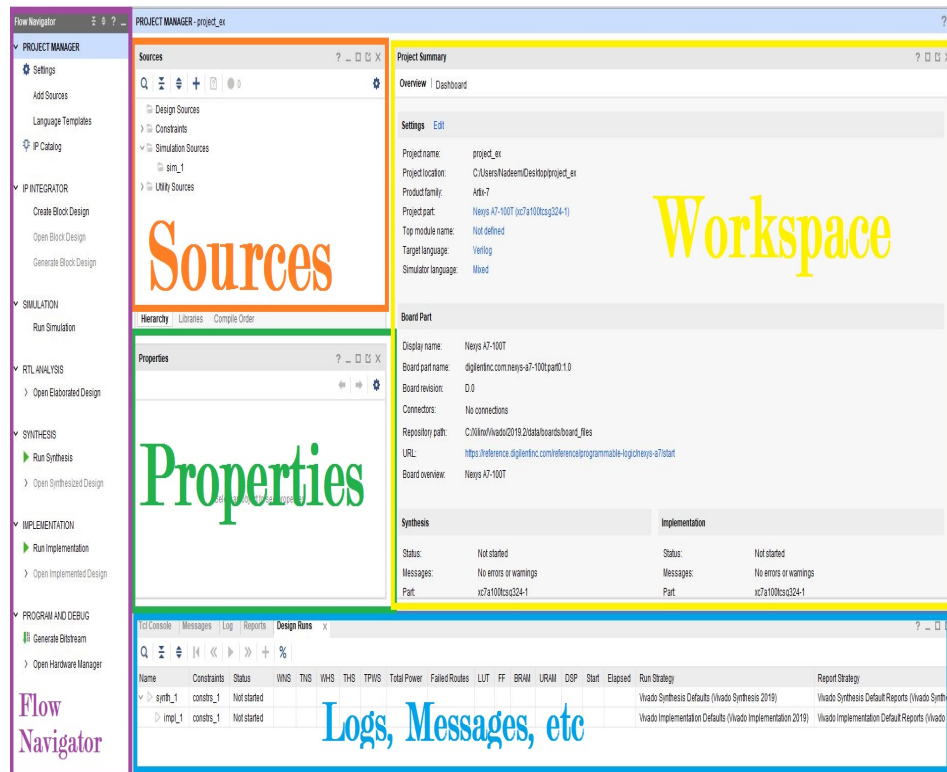

Fig. 2.5: Vivado Design Suite Window
5. Then the *Project Summary* will appear. Click on *Finish*. After this, the project will be initialized and window will appear (Fig. 2.5). Project Summary will contain information about the project settings, the board used along with the number of errors and warnings that encountered when synthesis, implementation and bit-stream generation have been completed. Clicking on these will show their details in the *Logs, Messages* window.
1. Click on *Add sources* from the project manager bar. (Fig. 2.5). A dialog box will appear. Select *Add or create design sources* and click *Next*.